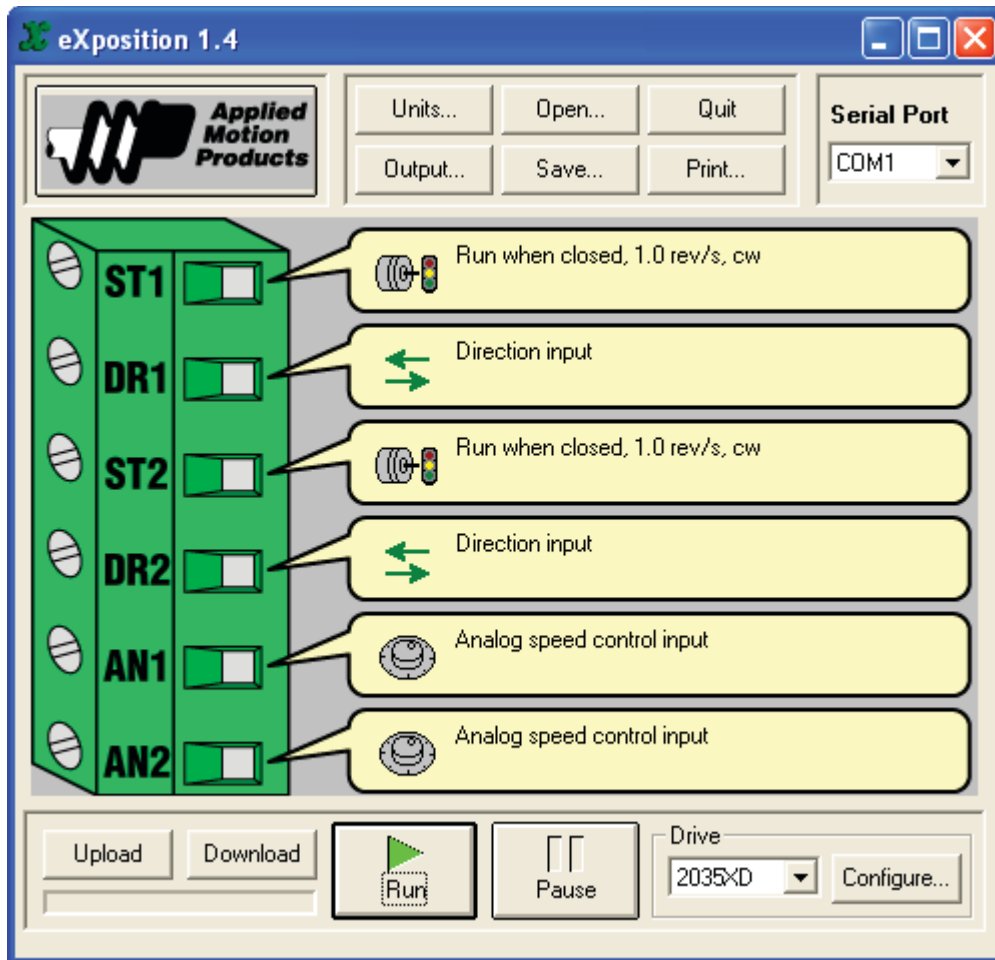

Figure 17. Adjustable speed drive program.
8. Program the drive according to Figure 17. Note that the analog inputs (AIN1 and AIN2) are now used and the nominal speed rotation has changed.